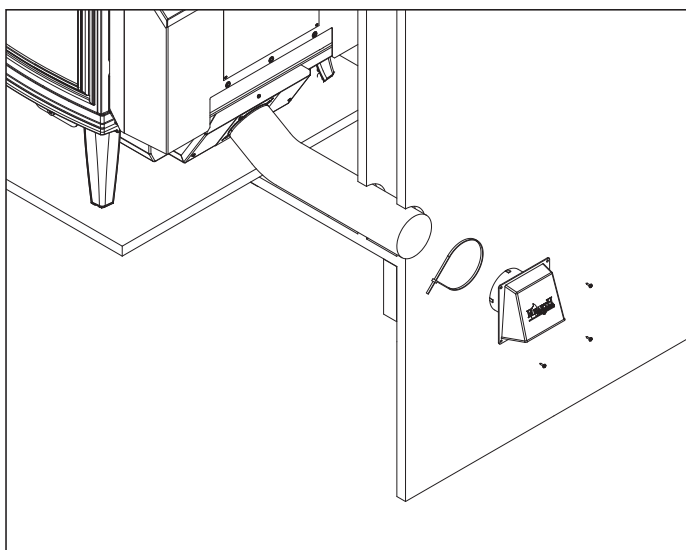

Figure 15.1 - Floor Installation
2. Using a #2 Phillips screw driver attach the flex adapter to the appliance using 4 screws. **Figure 15.1 & 15.2**